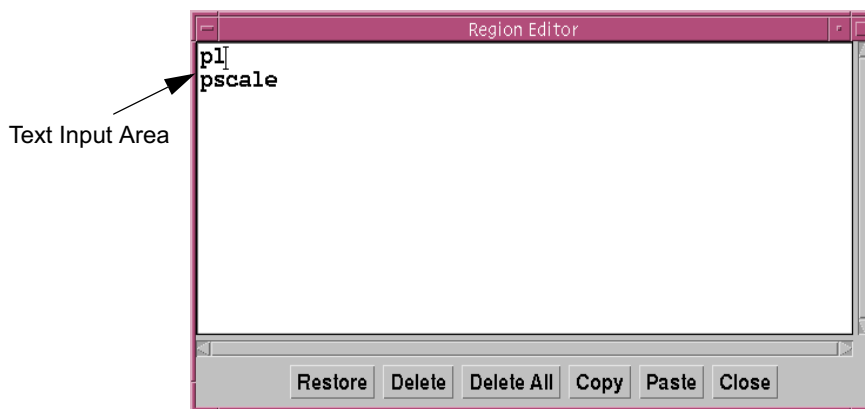

Figure 72. Region Editor Window
4. If a region is not already selected, click the middle mouse button inside it, then click **Region-Edit** to open the Region Editor window shown in **Figure 72**. Region Editor is a text editor in which you can enter commands to change an imported plot.